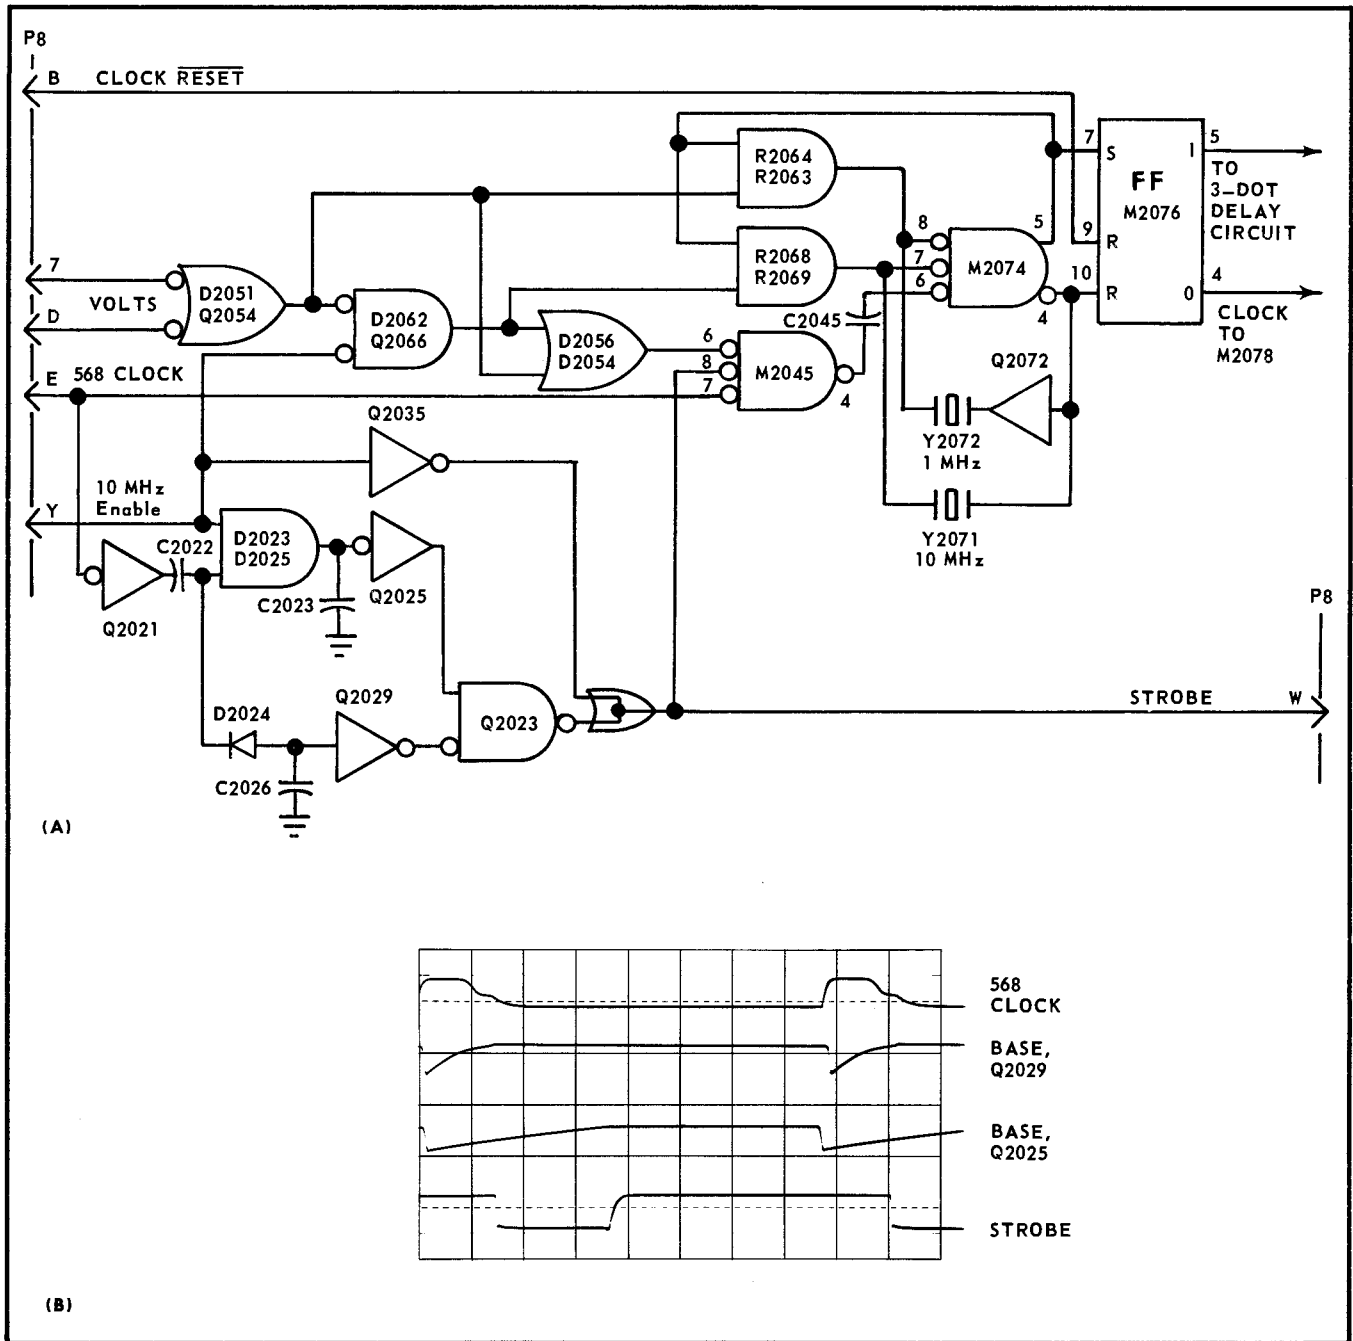

Fig. 4-34. STROBE and CLOCK pulse generation (clock model 3-up).
**Time Measurement, Equivalent Time Mode.** In this mode of operation, P8 pins 7, D, and Y are left floating (see Fig. 4-34). The output of Q2054 is low, as is the output of the NAND gate consisting of diode D2062 and transistor Q2066. The two low outputs disable both of the oscillator feedback paths (pins 7 and 8) of M2074. The low outputs are also applied through OR gate diodes D2054 and D2056 to AND gate M2045, enabling one of its inputs. The other inputs to M2045 are 568 CLOCK and STROBE from the collector of transistor Q2031. The clock input to M2045 is enabled for the negative duration of 568 CLOCK. The strobe from Q2031 activates M2045 approximately 2 microseconds after each clock pulse, as explained in the following paragraphs.